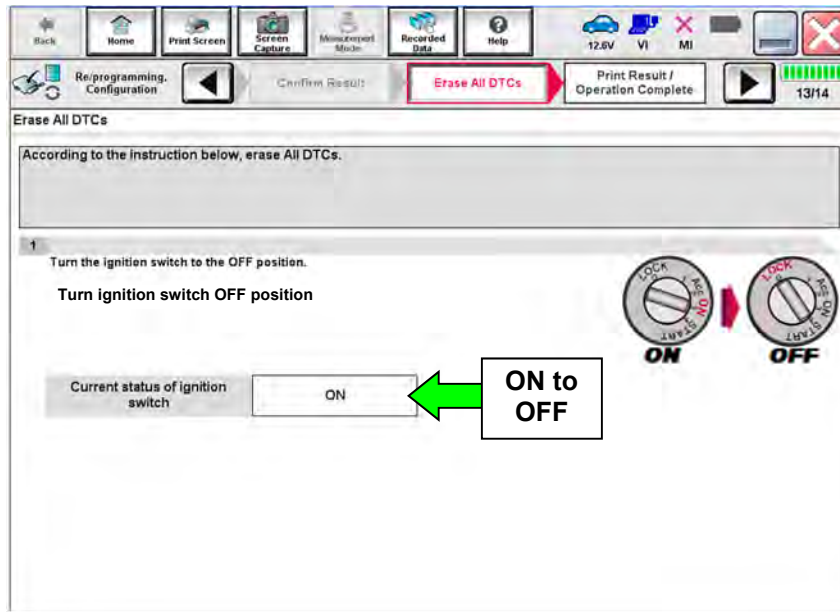

Figure 34
- The screen in Figure 34 will read **OFF** after pressing the power switch once.